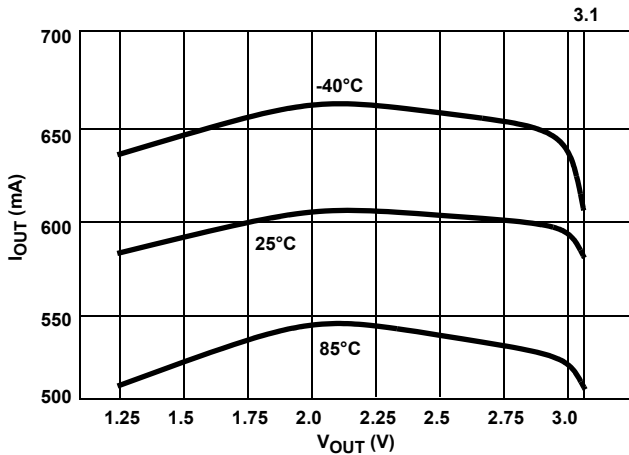

FIGURE 4. CURRENT REGULATION vs V_{OUT} ($V_{IN} = 3.3V$)
The ISL6118 has integrated current sensing on the power MOSFETs that allows for rapid control of OC events. Once an OC condition is detected the ISL6118 goes into its current regulation (CR) control mode. The ISL6118 CR level is set to a nominal 0.6A and is regulated to within ±25% over full temperature, bias voltage range and OC magnitude. The speed of this control is proportional to the level of OC. Thus a hard OC is more quickly controlled than a marginal condition. See Figures 4 through 7 for current regulation performance curves and waveforms.